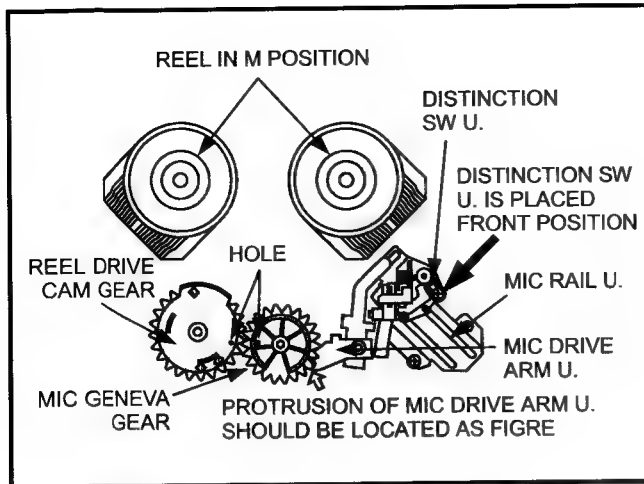

Fig.6-22-3 Gear Phase Adjustment
5. Install the Reel Drive Cam Gear and hole of Reel Drive Cam Gear should be matched with the hole of MIC Geneva Gear as shown in Figure 6-22-3.
- 3) Portrusion of MIC Drive Arm Unit is positioned as shown in Figure 6-22-3.